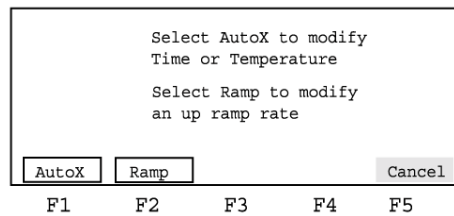

Figure 4-7. The Select Modification Screen
3. Press **F1-Modify**. This displays the Select Modification screen (Figure 4-7).
1. From the Modify screen, press **F1-Modify**. This displays the Select Modification screen (Figure 4-7).